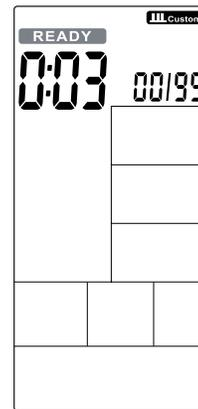

Figure 35
4. The cycle timer will count down from 3 to 0, and the console will start. The buzzer will beep once per second, and the **READY** icon will flash. The display will show 00/XX (see Figure 35).